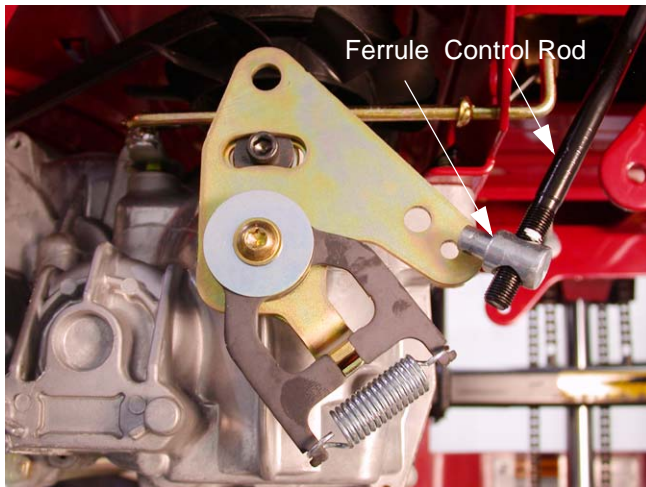

Figure 17.7
- 17.7. Disconnect the lapbar control rods from the return to neutral brackets. See Figure 17.7.